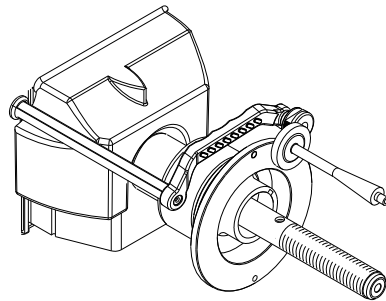

Figure 47a
11. Pull the distance gage to the outside flange of the backing collar, use the flat head of the calibration weight as an index. After a short beep, the machine displays "**bAC H POS**". See Figure 47a.